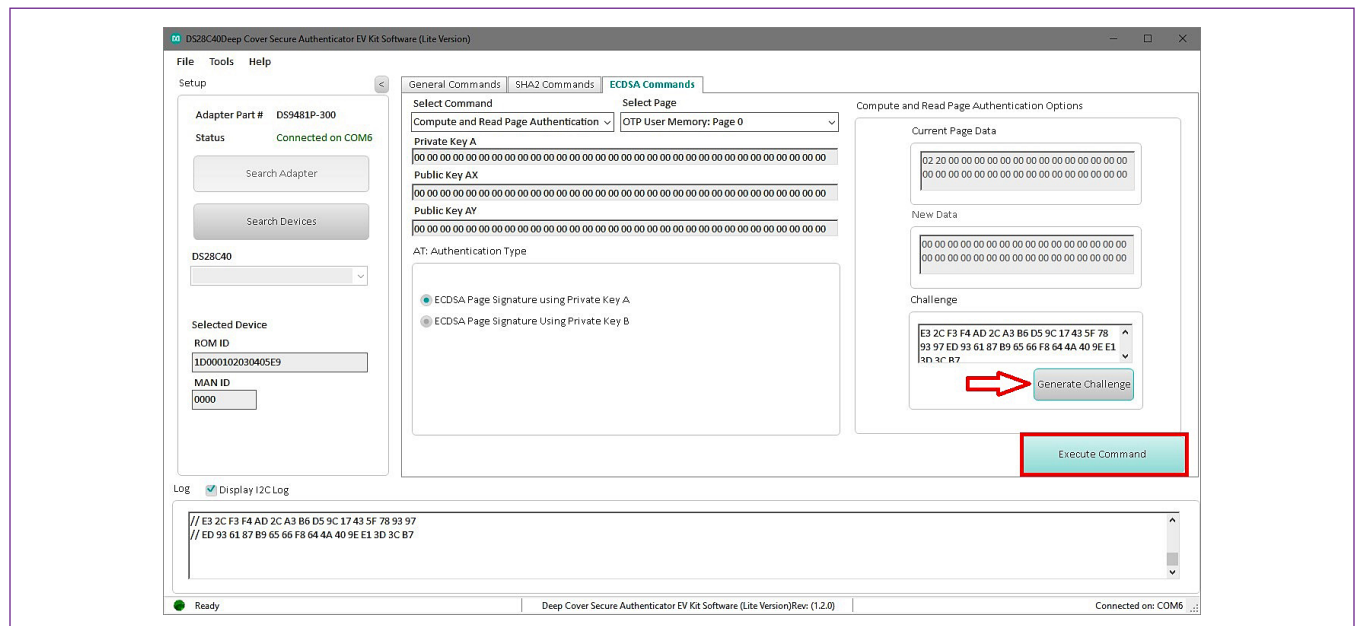

Figure 28. Execute Command
- Click the **Generate Challenge** button and then click **Execute Command** button to perform the sequence (Figure 28). Results are displayed in the **Log** box.